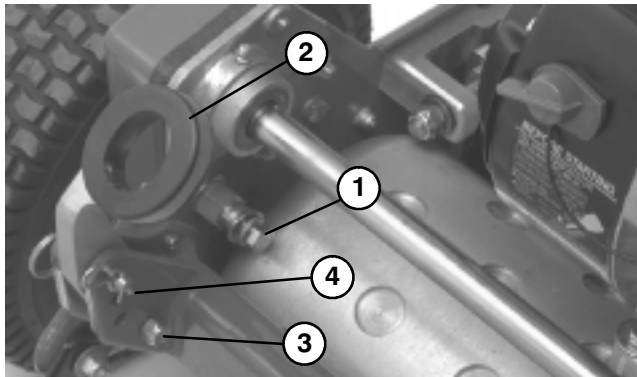

Figure 1
1. Remove capscrew, washer and lockwasher from mounting pin on each side of mower, as shown in fig. 1.
2. Remove capscrews and locknuts securing bottom of handle arms to each side of mower, as shown in fig. 1.
3. Remove hair pin cotters and ring pins securing handle arms to rear of frame (Fig. 1).
4. Insert handle ends thru holes in handle arms and align holes with mounting pins (Fig. 1).